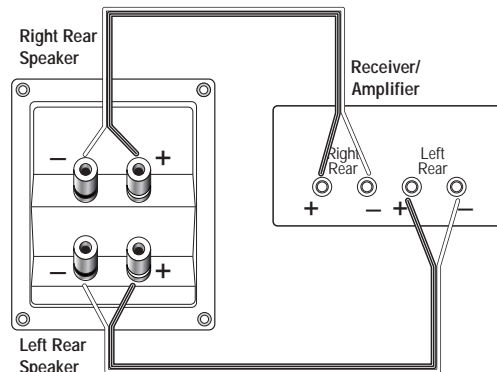

Figure 10. Wiring diagram shows connections for two channels using Application 3.
4. Connect the speaker wire for the RIGHT REAR speaker to the top set of terminals (Fig. 10).
5. Connect the speaker wire for the LEFT REAR speaker to the bottom set of terminals (Fig. 10).